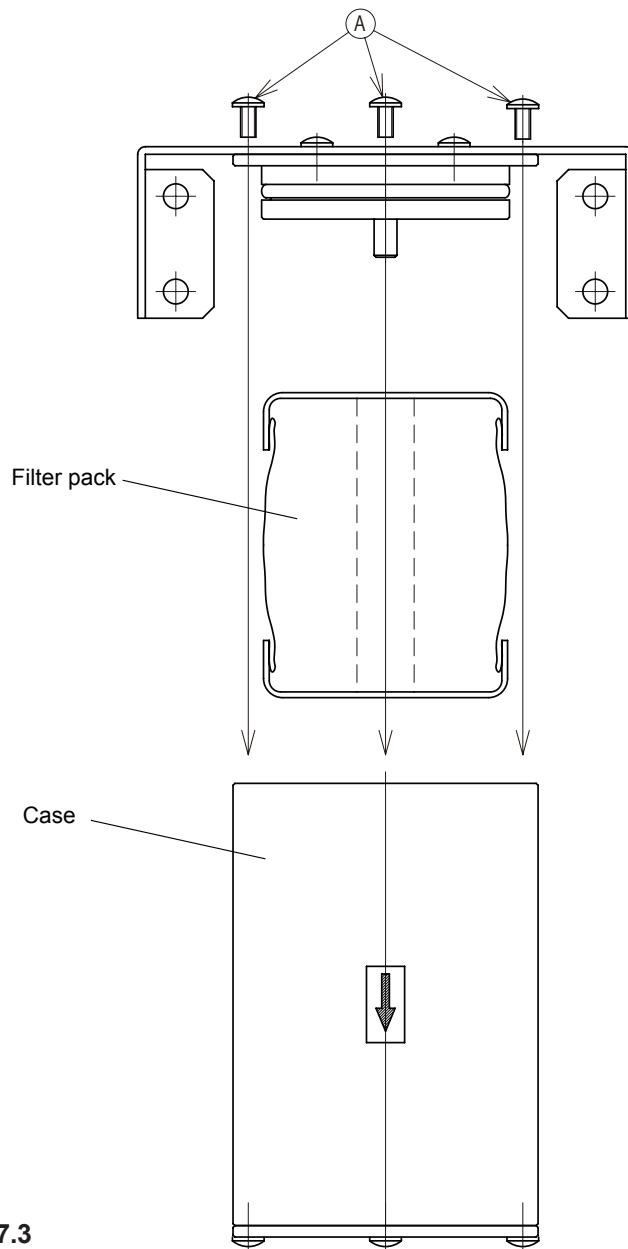
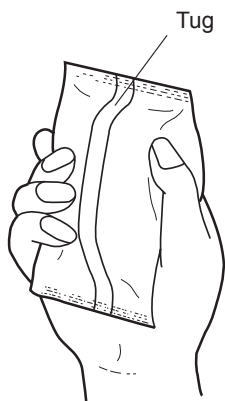

Figure 7.3
Figure 7.4.1
- (1) Remove four screws (A) and loose the filter case from the upper cover (Figure 7.3).
- (2) Remove an old filter pack.
- (3) Open a new filter pack and follow the steps below, referring to the figures, to put it into the case.
- * Shape the pack into cylinders (Figure 7.4.1).